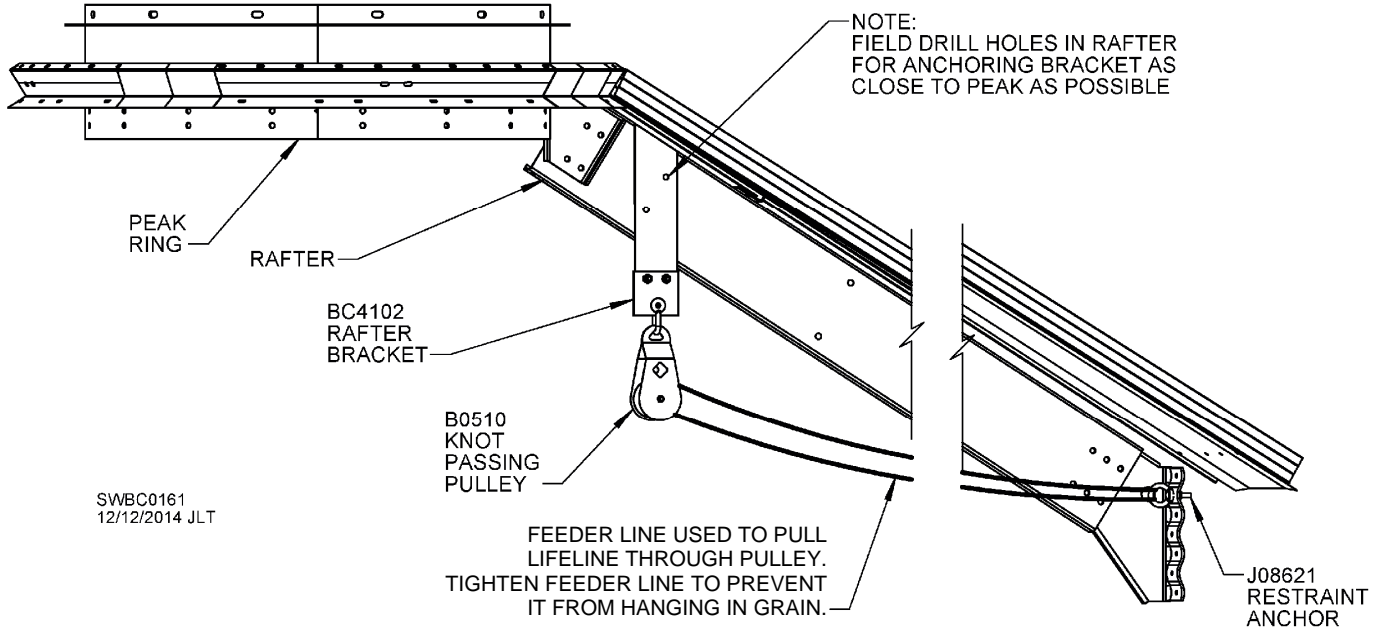

Fig. 32 – Mount knot-passing pulley close to peak ring (single rafter shown)
For added bin safety, a knot-passing pulley is mounted inside of bin near the peak on roofs rated for 15,000 pounds or more. Knot-passing pulley is intended to be used with a lifeline and safety harness (neither supplied by Sukup Manufacturing Co.). A feeder line should pass through knot-passing pulley at peak and through restraint anchor at eave of bin near manhole. See Fig. 32. Feeder line is used to pull lifeline through knot-passing pulley for safety harness attachment. Do not attach safety harness to feeder line. Use safety equipment according to manufacturers' instructions. Refer to Sukup Grain Bin Operation Manual Safety Section and www.osha.gov for additional safety information.
Knot-passing Pulley Installation: Attach knot-passing pulley to rafter bracket as shown in Fig. 32. Bracket should be mounted to a rafter as close to peak ring as possible. Mounting of bracket will depend on type of rafter. For single-rafter roof, field-drill two (2) 9/16" holes using rafter bracket as drill guide. See Fig. 33. A double rafter (Fig. 34) requires two (2) additional 9/16" holes be field-drilled, with bracket mounted between rafter sections. For I-beam roof rafter, drill four (4) 9/16" holes in I-beam and mount angle brackets as shown in Fig. 35, then attach pulley mounting bracket. In all cases, 1/2" bolts and nuts are used to attach brackets, and a shackle is used to hang knot-passing pulley from rafter bracket.